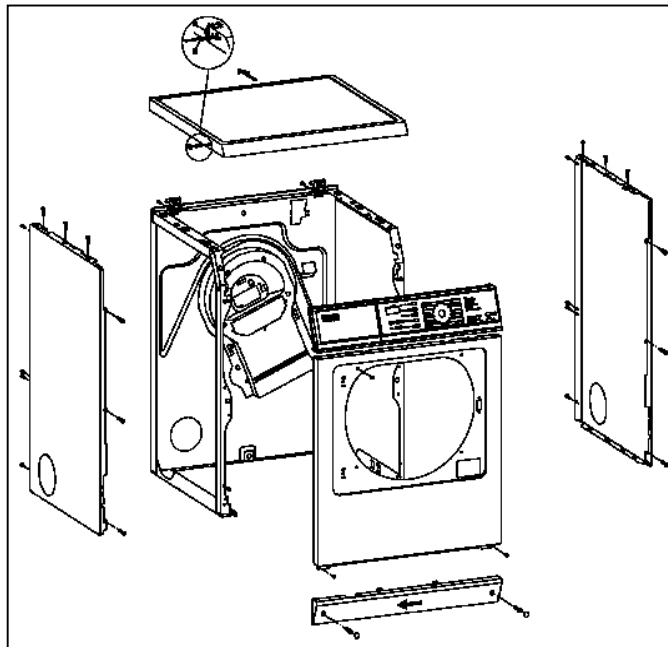

Figure 010-1: Cabinet Construction
1. Remove the screw caps, Figure 010-1.
3. Refer to Figure 010-1. Remove the three screws from both rear edges of the panel.